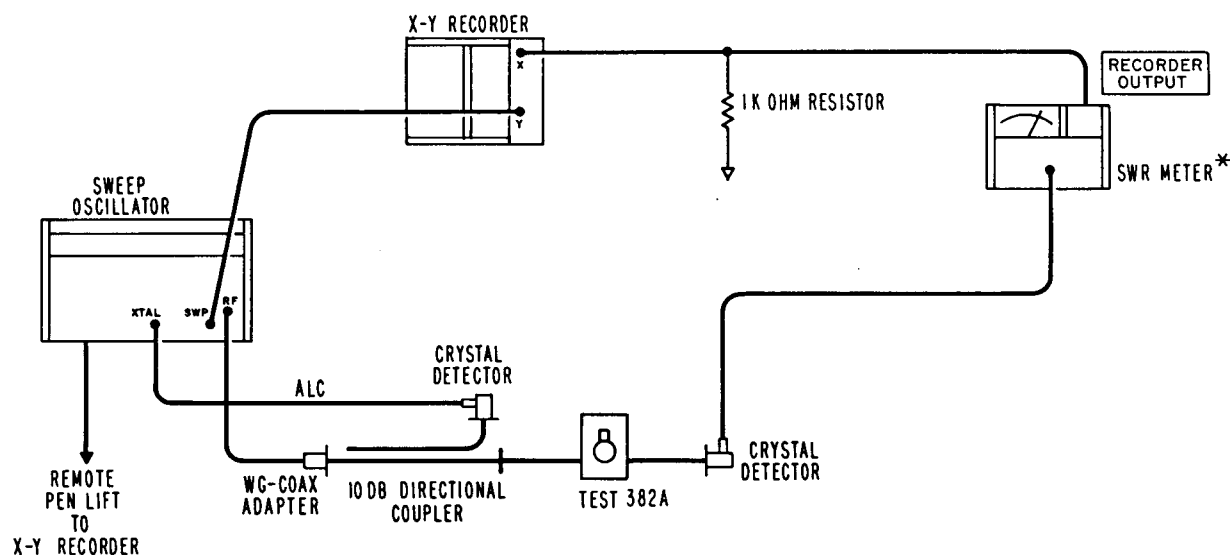

Figure 4 Moding Test Setup
1. Connect instruments as shown in Figure 4.